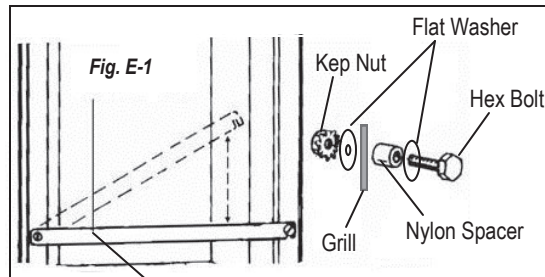

Fig. E-1
- Attach the tank lock bar across the back of the column. Use the 3/4" Hex bolt, 4 Flat Washers, Nylon Spacer and the Kep nut on each side to fasten the bar in place. (Fig. E-1)